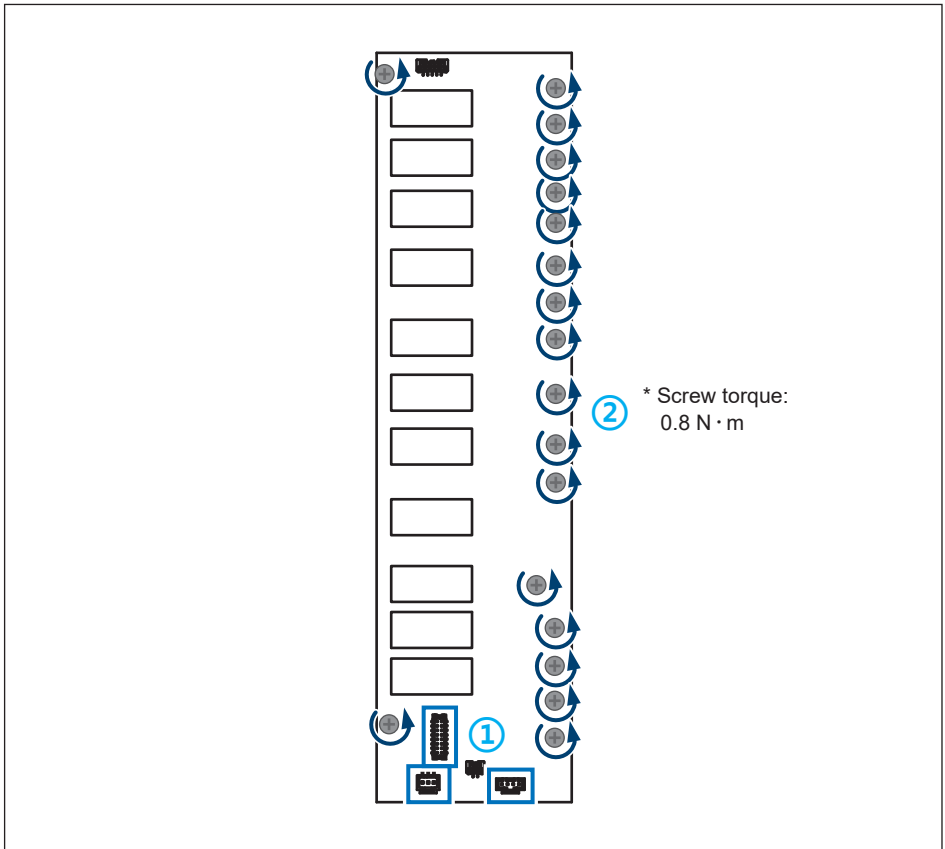

Figure 5-8: Remove sensing cable and screws
4. Press to release the lock of the header then remove the sensing cable of DC SPD. (**Figure 5-8-①**)
5. Loose 18 screws to remove DC SPD. (**Figure 5-8-②**)